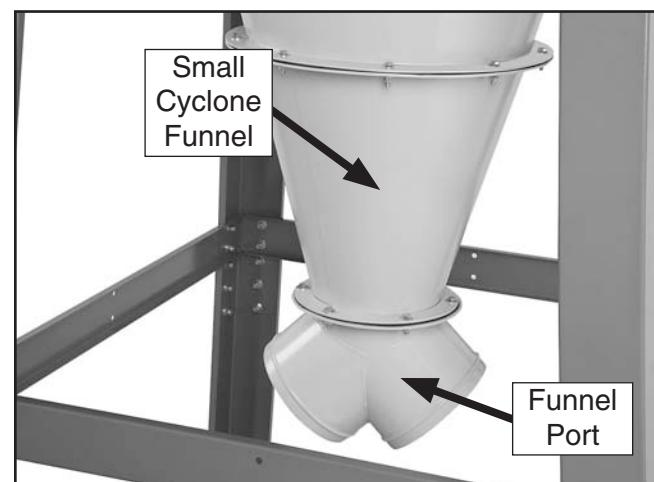

Figure 37. Small cyclone funnel and funnel port attached.
41. Attach the small cyclone funnel and funnel port with (6) 5/16"-18 x 1 1/4" hex bolts, (12) 5/16" flat washers, and (6) 5/16"-18 hex nuts.
42. With assistance, attach this assembly to the bottom of the large cyclone funnel with (9) 5/16"-18 x 1 1/4" hex bolts, (18) 5/16" flat washers, and (9) 5/16"-18 hex nuts (see **Figure 37**).